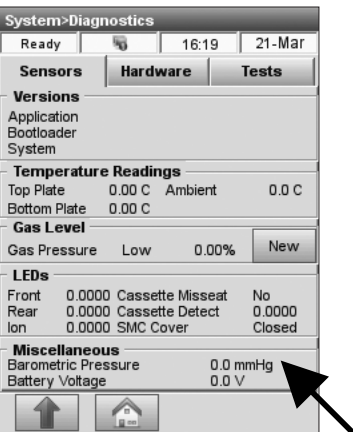

Fig. 8-6 Barometric Pressure
- The **<Miscellaneous>** section will show the current barometric pressure (Fig. 8-6).